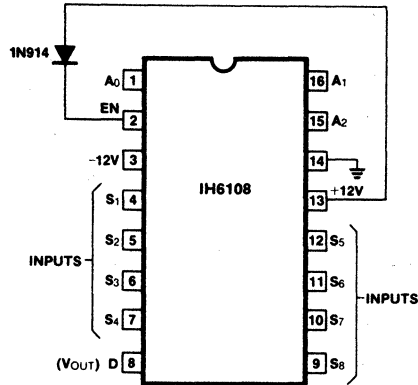

Figure 8: IH6108 Connection Diagram for less than  $\pm 15V$  Supply Operation
Caution must be taken to ensure that the enable (EN) voltage is at least 0.7V below  $V+$  at all times. If this is not done, the Address input strobing levels will not function properly. This may be achieved quite simply by connecting EN (pin 2) to  $V+$  (pin 13) via a silicon diode as shown in Figure 8. When using this type of configuration, a further requirement must be met: the strobe levels of A0 and A1 must be within 2.5V of the EN voltage in order to define a binary "1" state. For the case shown in Figure 8 the EN voltage is 11.3V which means that logic high at A0 and A1 is = +8.8V (logic low continues to be = 0.8V). In this configuration the IH6108 cannot be driven by TTL (+5V) or CMOS (+5V) logic. It can be driven by TTL open collector logic or CMOS logic with +12V supplies.